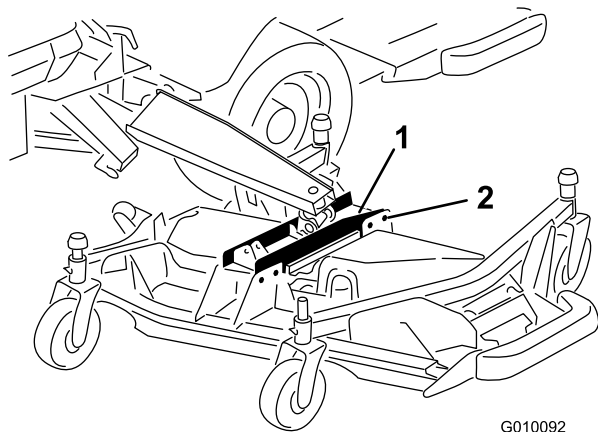

Figure 7
5. Remove (8) flange head screws and lock nuts that secure deck connection to cutting unit (Figure 7).
7. Install deck connection to cutting unit with (8) flange head screws and lock nuts (Figure 7).